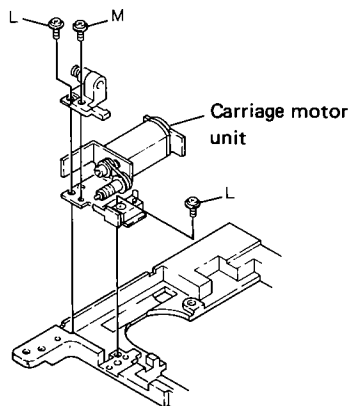

Fig. 26
• **Carriage Motor Unit Removal (Fig. 26)**